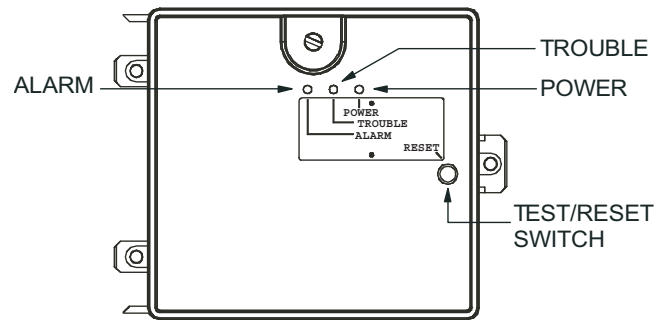

Fig. 38 — Controller Assembly
- The contacts on the controller's supervisory relay switch positions. (See Fig. 38.)